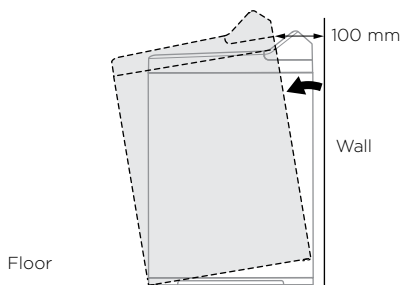
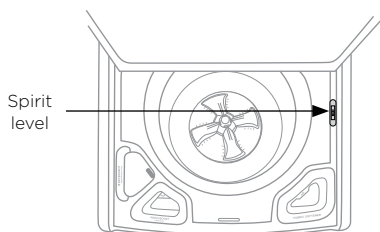

Fig.2 Tilt washer forward
Fig.3 Levelling from front to back
- ③ With the lid closed, tilt the washer forward away from the wall approximately 100 mm (Fig.2), the self-adjusting feet will release. Gently lower the washer back down.
- ④ Open the lid, place the spirit level at either the right hand or left hand side of the top deck. Level the washer from front to back using the front feet only (Fig.3), winding both feet in or out equally. Tilt the washer forward again and lower back down (Fig.2).
- ⑤ Re-check the washer is level. Move the spirit level around to all positions once more, checking the washer is level in all areas. Repeat step 4 if necessary. Check the washer does not rock from side to side, front to back, or corner to corner.